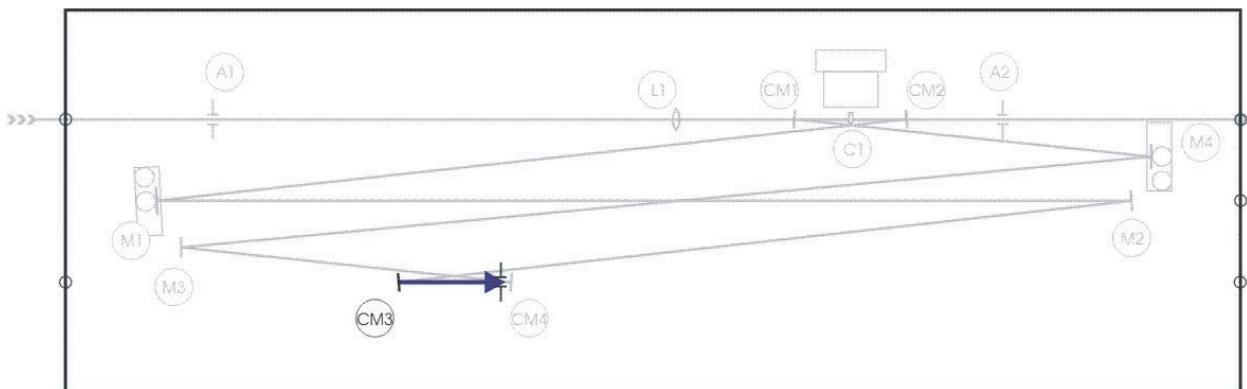

Figure 5.13.: Align CM3 to center green pump spot on CM4. Use flip aperture position **A7**.
- Flip in aperture **A7** in front of CM4. Adjust CM3 to center the spot on CM4 (Fig. 5.13).